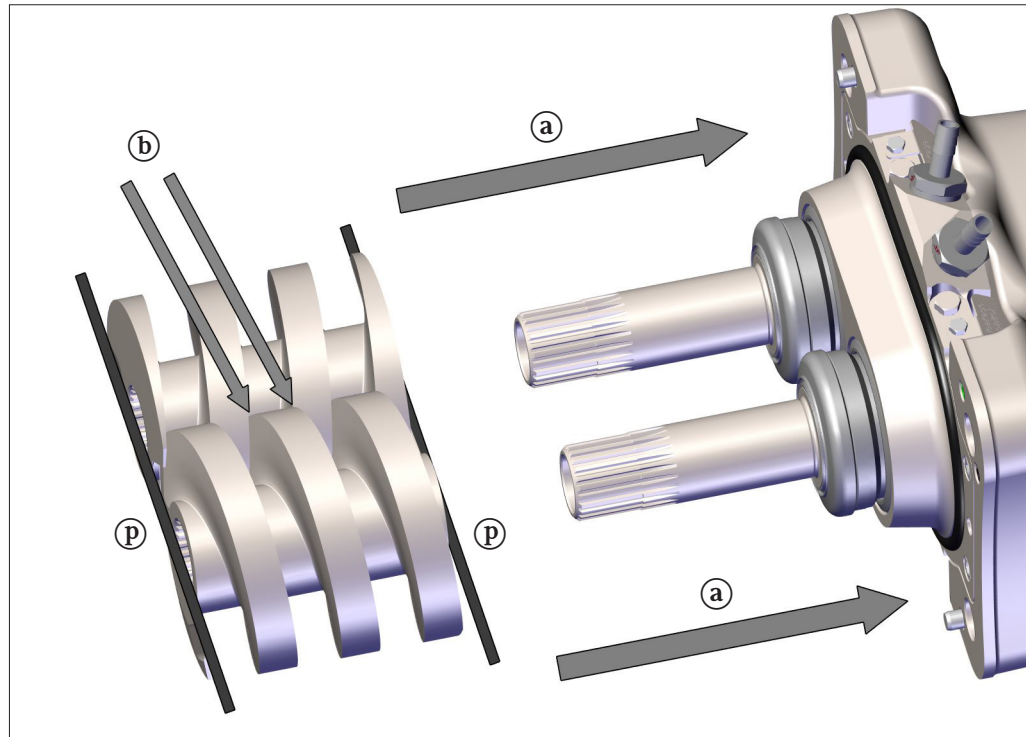

Fig. 11.2: The screw spindles are pushed on in pairs
3. Push the screw spindles in pairs onto the input/output shafts (arrow **a** in Fig. 11.2)
5. If both screw spindles are lying flat (**p** marks in Fig. 11.2) on both mechanical seal cartridges and there is also a gap (arrow **b** in Fig. 11.2) between the two screw spindles:
1. Arrange the interlocking screw spindles in pairs so that they are at one level (Ⓟ markings in Fig. 11.2)
2. Push the two screw spindles together onto the input/output shafts (arrow ⓐ in Fig. 11.2)
7. Use a feeler gage to set the gap between the spindles on the two screw spindles. (arrow ⓑ in Fig. 11.2)